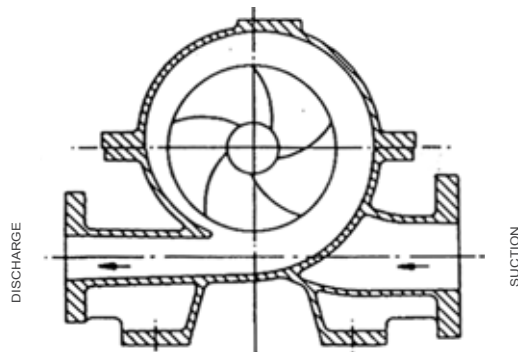

Figure 1: CLOCKWISE ROTATION
**Note:** For clockwise rotating pumps position the rotating element assembly over the bottom half of the casing with the suction end positioned to the right. Make sure the vanes curve away from the section end. Pushing and not scooping the fluid as shown in Figure 1 above.
4.5.27 Lift rotating element and position over the bottom half of the casing. Use overhead hoist and lifting straps in necessary. Turn wear rings to align guide holes with the locating pin in the casing. The wear rings have guide holes 180 degrees from another to aid in aligning guide holes and pins. Check imeppler for correct rotation using Figures 1 and 2 above.